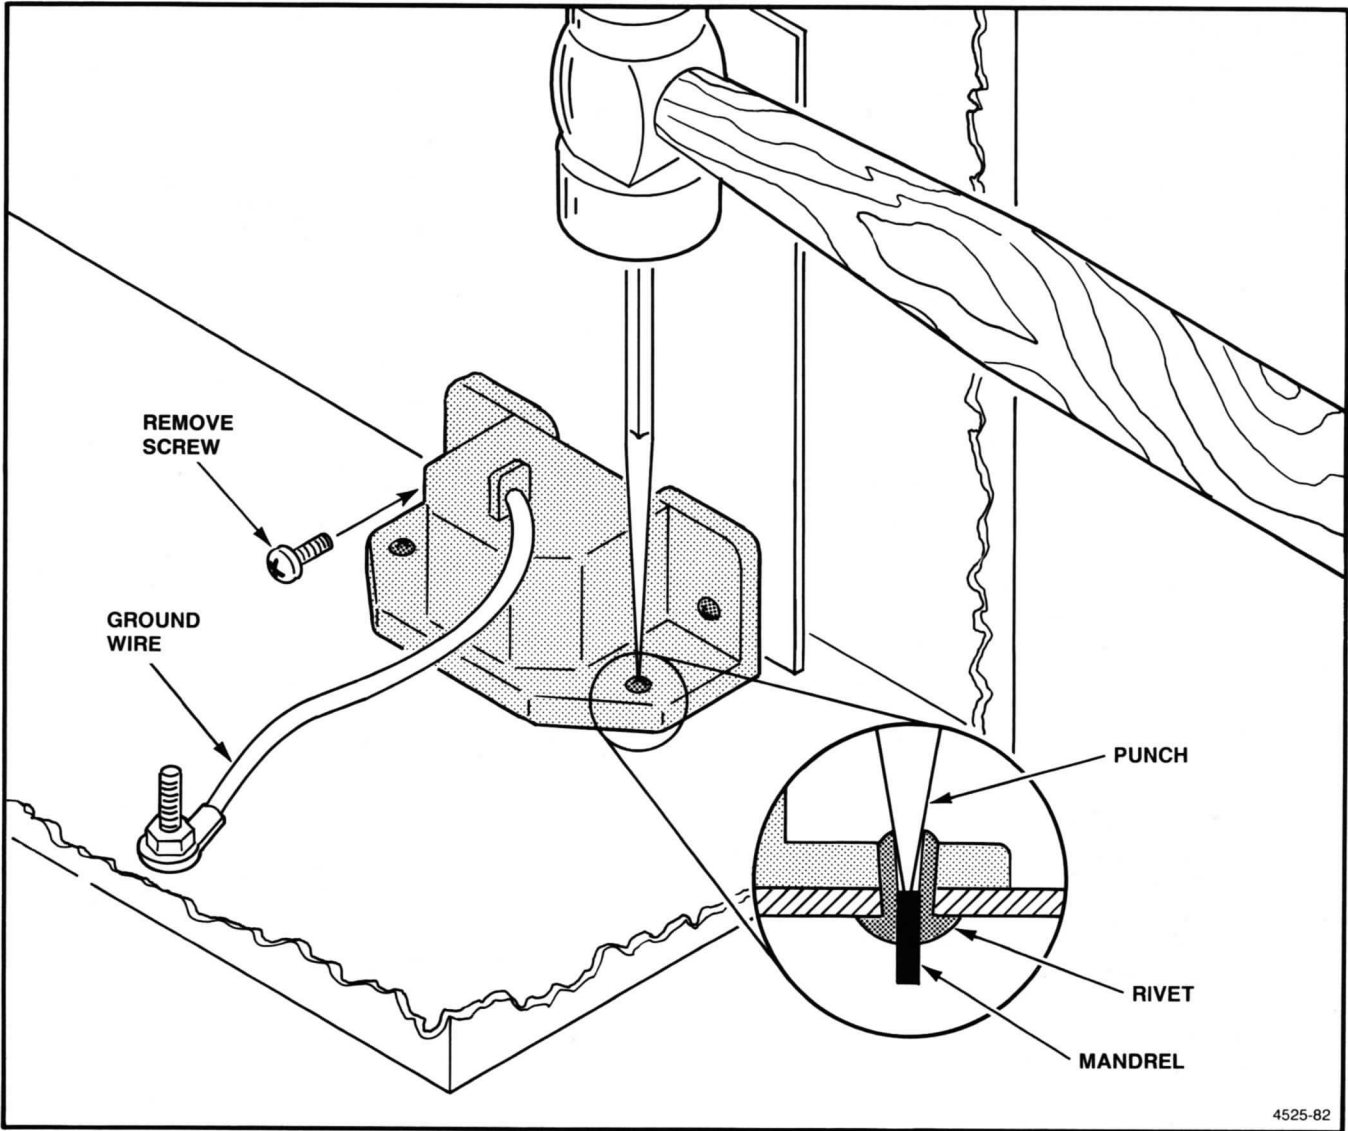

Figure 6-6. Removing Power Receptacle Rivets.
2. Figure 6-6 illustrates removing the AC power receptacle from the chassis. First, using a scribe and hammer, tap the mandrel (pin) through each of the two rivets. Now, push out the rivets. The AC receptacle is free from the chassis.
3. Remove the screw that fastens the AC power receptacle to the circuit board and to the chassis. See Figure 6-6, again.